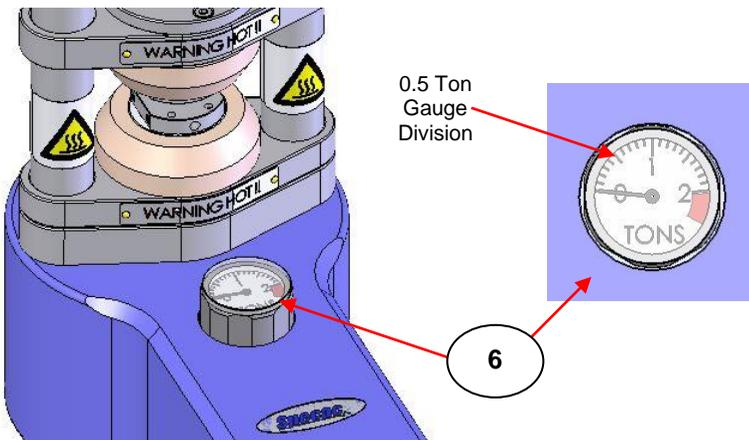

Fig 9. Mini-Film Maker Pressure Gauge
When the lead screw assembly (4) is hand tight, begin applying a tonnage load via clockwise turning of the pressure screw assembly knob (5). Usually a 0.5 tons load as indicated at the pressure gauge (6) is sufficient for the formation of a thin film. (See Fig 9).